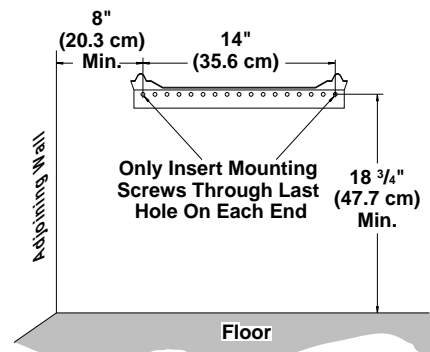

Figure 15 - Mounting Bracket Clearances
**⚠ WARNING: Maintain minimum clearances shown in Figure 15. If you can, provide greater clearances from floor and joining wall.**
2. Mark screw locations on wall (see Figure 15).